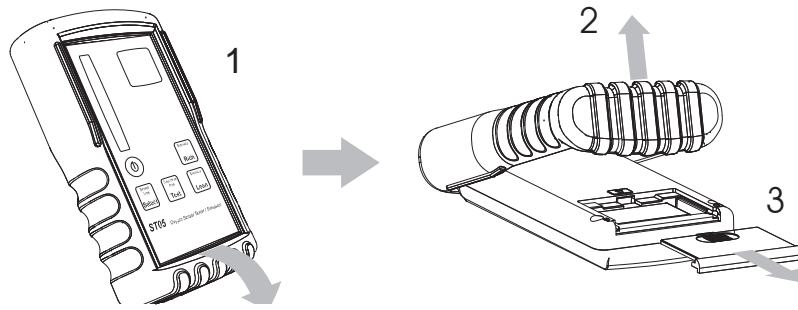

Fig 6 - Battery replacement
- 1-Release the rubber holster from plastic enclosure by pulling from the bottom of the holster as shown in the illustration (Fig. 6)